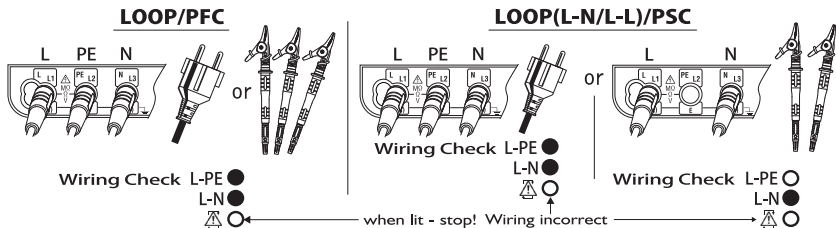

Fig.29
(1) Operate the Power button and turn on the instrument. Turn the Function switch and set it to either the LOOP or PSC/PFC position.
(2) Insert the Test Lead into the instrument. (Fig.29)
After the connection, ensure that the symbols for Wiring check on the LCD are in the status indicated in Fig.29 before pressing the test button.
If the status of the symbols for Wiring check differ from Fig.29 or  symbol is indicated on the LCD, DO NOT PROCEED AS THERE IS INCORRECT WIRING. The cause of the fault must be investigated and rectified.